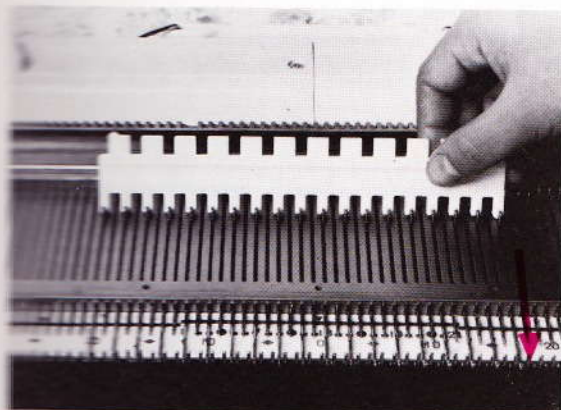

Fig. 47
- Using the alternate needle selection bar bring 10 needles on each side of the figure 0 to B position (fig. 47).